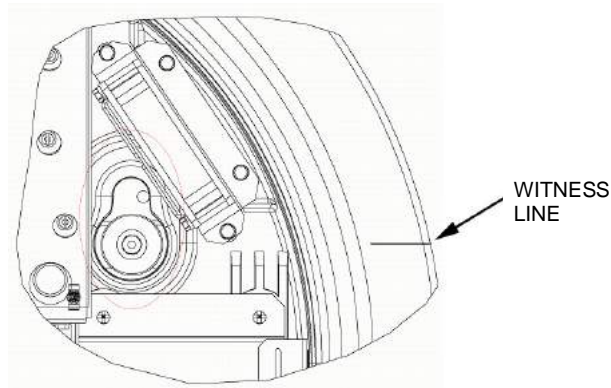

FIGURE 1-2 - WITNESS LINE MOLDED INTO THE RIGHT UPPER SIDE OF THE CABINET (ONE ON EACH SIDE)
2. To aid in installation, mark a horizontal line on the wall approximately 7" from the center of the upper studs on the bracket to the outside of each stud. As you lift MoD BoX to the Hanger Bracket, you will be able to line up the witness line molded into the cabinet with the line that you made on the wall. (see Figure 1-2).